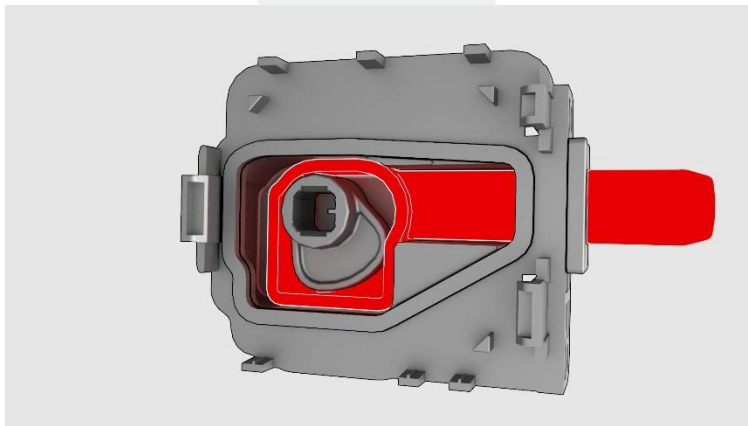

Figure 3
4. Remove and retain the latch from the latch actuator carrier (Figure 3).